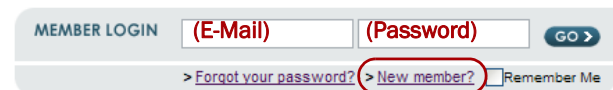

Figure 2. MEMBER LOGIN Section
2. At the MEMBER LOGIN (Figure 2), **log in** to the site.